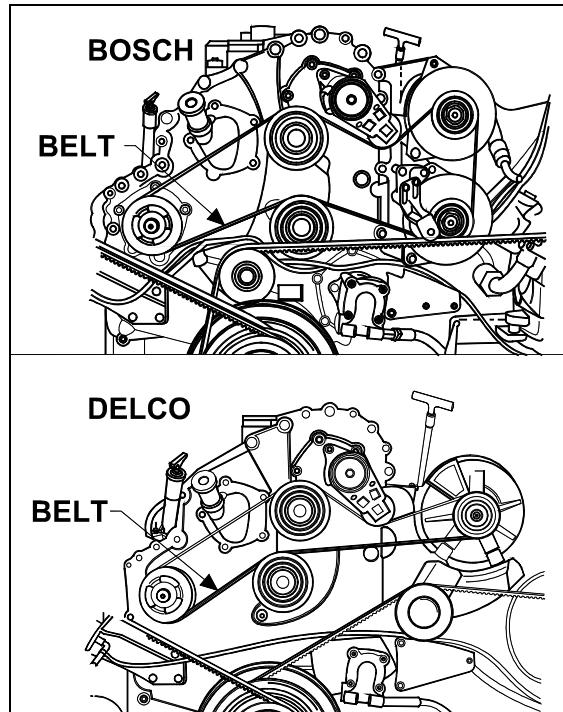

FIGURE 40: ALTERNATOR DRIVE BELT
1. Insert a $\frac{3}{4}$ " socket drive into one of the tensioning arm opening (Fig. 40).